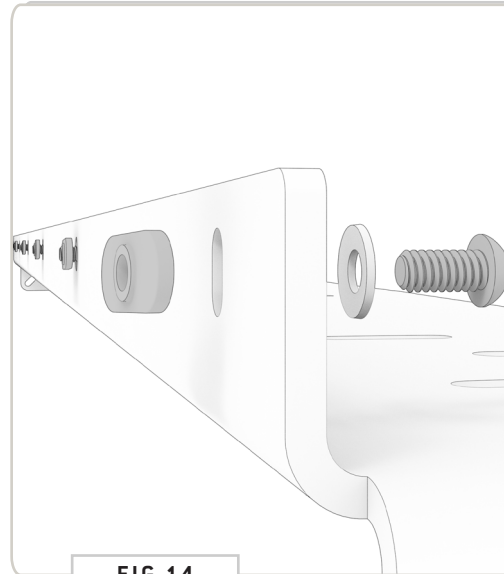

FIG 14
5.1 Crossbar Fairing Bracket: Stack a **1/4-20" x 0.5 Button Head Screw** and **1/4" Belleville Lock Washer** as shown in **FIG 14** and insert into the six available front holes of the **Fairing Light Bar Tray**. Loosely assemble using a **T-Nut**. You'll only want to screw the **T-Nuts** on a little in order to provide clearance for the next step.